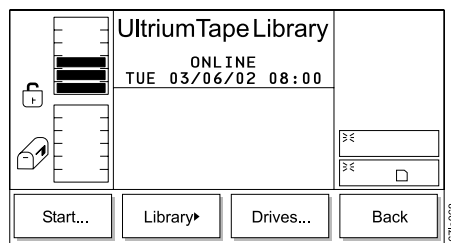

Figure 314. Service Menu
2. Press the button below the **Service** softkey. The Service Menu displays (see Figure 314).